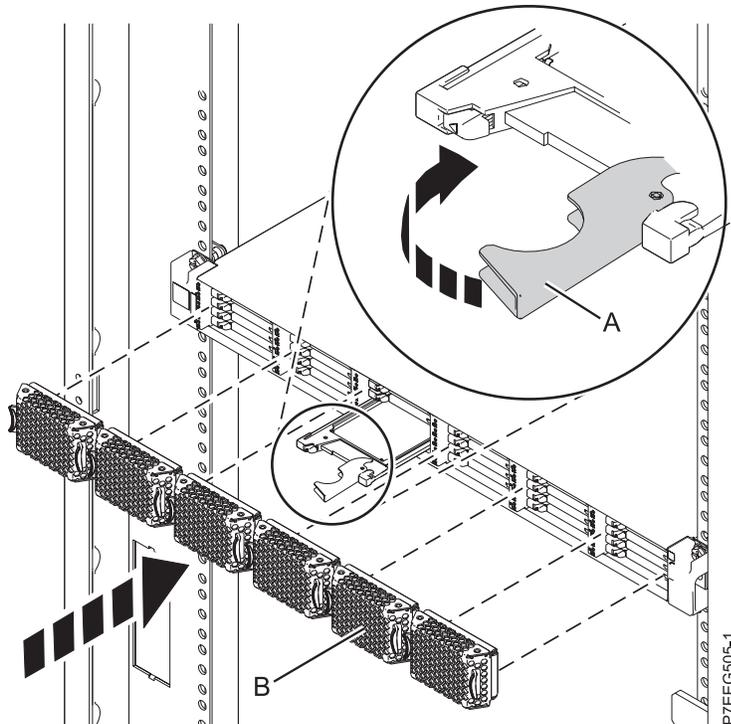

Figure 9. Installing a solid-state drive in the ED/R1 PCIe storage enclosure
1. With the handle in the unlocked position, align the solid-state drive with the guide rails in the enclosure. See Figure 9 on page 17.